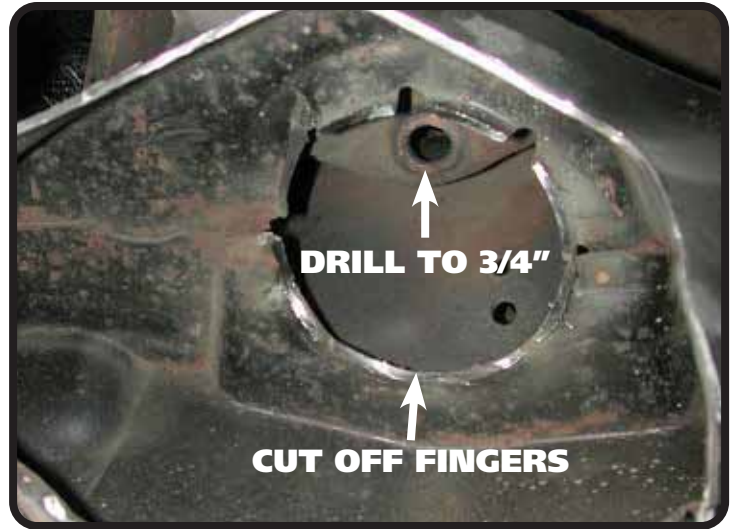

Figure 1
**2.** Drill the OEM shock hole out to 3/4". This can be done with a Unibit. To prevent contact with the top of the Shockwave, the coil spring retaining fingers must be cut off (Figure 1). A die grinder works well here.